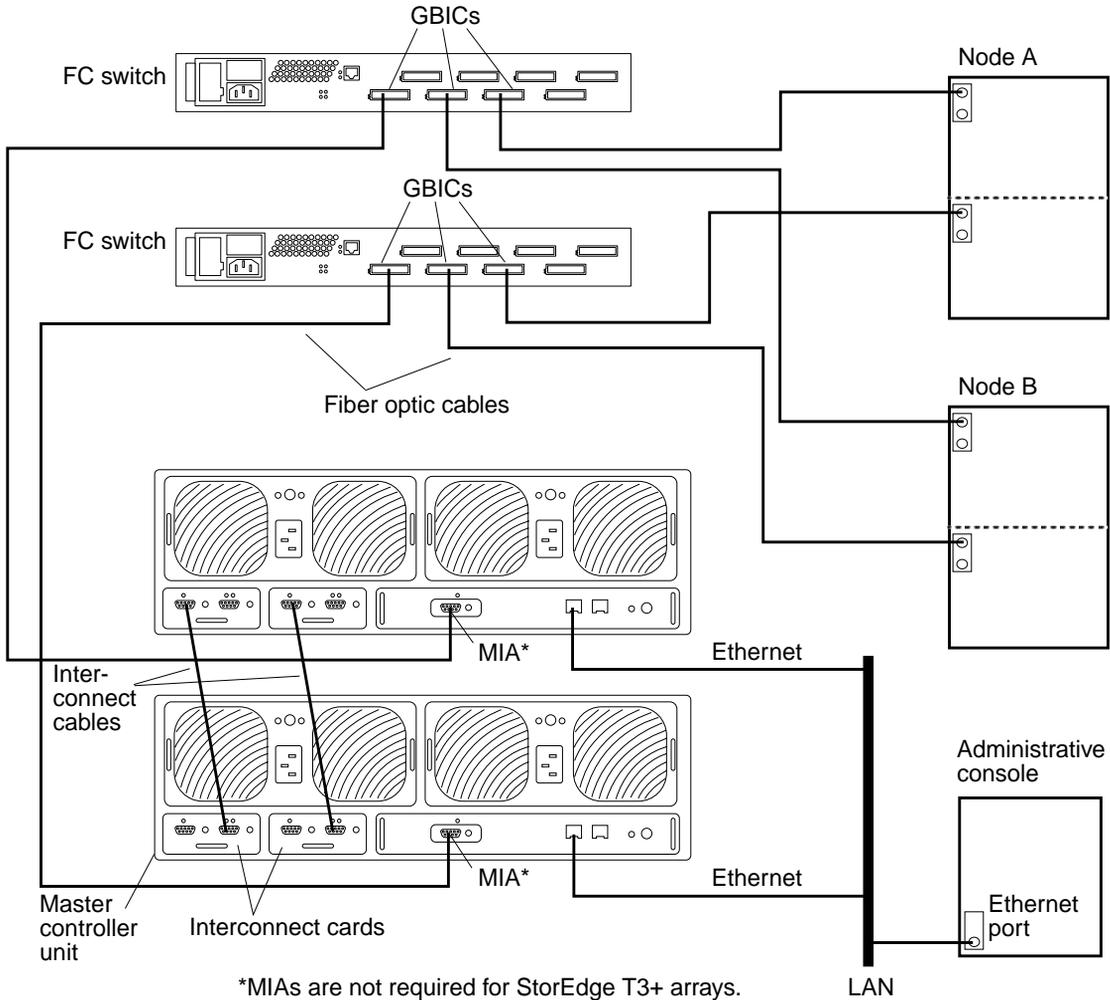

FIGURE 9-1 StorEdge T3/T3+ Array Partner-Group (Interconnected) Controller Configuration
Install the media interface adapters (MIAs) in the StorEdge T3 arrays you are installing as shown in FIGURE 9-1.
4. If necessary, install GBICs in the FC switches, as shown in FIGURE 9-1.
6. Cable the arrays (see FIGURE 9-1):
The master controller unit is the array that has the interconnect cables attached to the right-hand connectors of its interconnect cards (when viewed from the rear of the arrays). For example, FIGURE 9-1 shows the master controller unit of the partner-group as the lower array. Note in this diagram that the interconnect cables are connected to the right-hand connectors of both interconnect cards on the master controller unit.